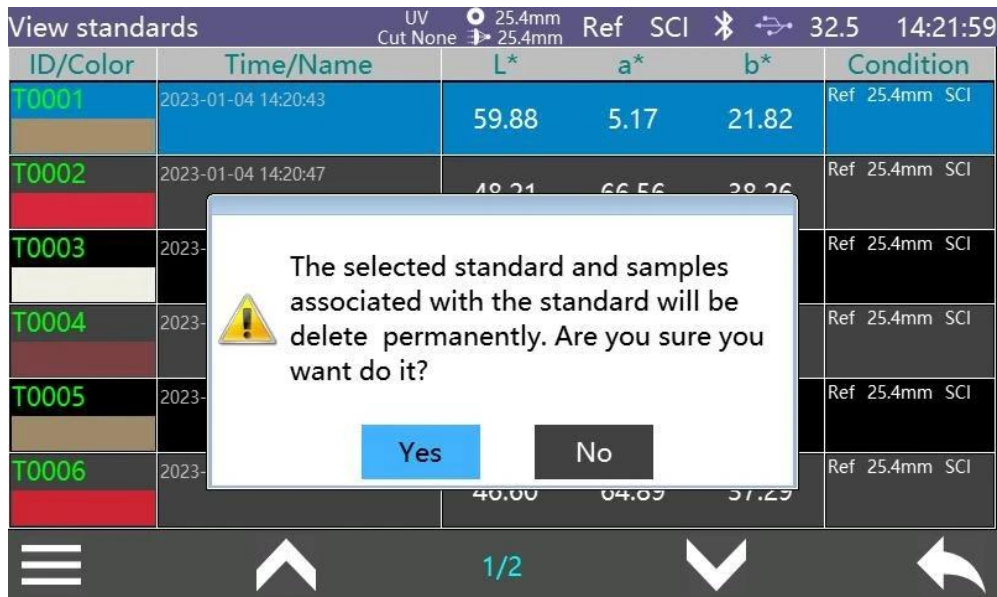

Figure 37
- Click  to view the sample interface menu, Click "Delete" again to enter the record deletion reminder interface, as shown in Figure 37. Click "Yes" to confirm deletion; Click "No" to cancel the deletion and return to the "View Standards" interface